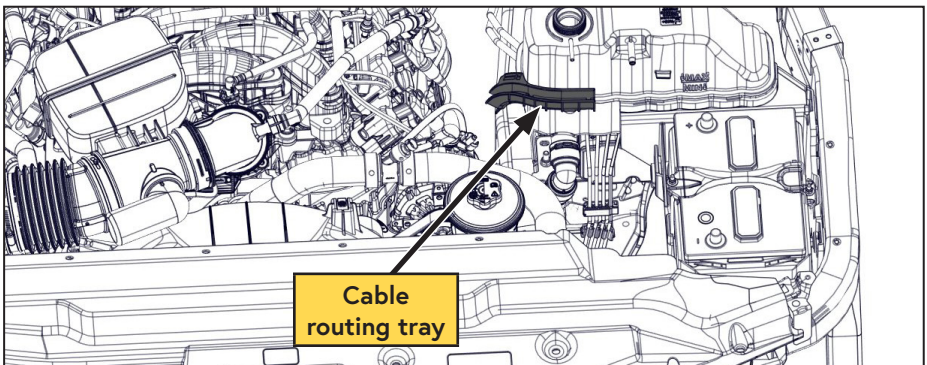

Figure 1 — Secure battery wires out of the way
- Review the contents of the system using the illustrated parts list to ensure all components are present and in the correct quantity. If any components are missing, have the system ID ready and call VMAC Technical Support at (888) 241-2289.
- If equipped:** Remove the battery wires from the routing tray and pass them to the opposite side of the engine; this provides clearance for the install (Figure 1).